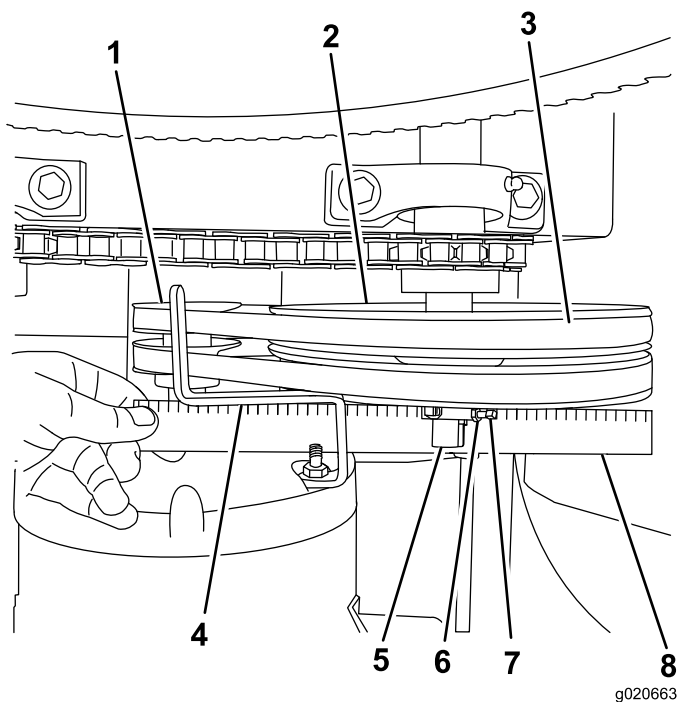

Figure 36
- D. Align a straightedge across the motor pulley and the idler pulley (Figure 36).
- E. If needed, pivot the motor on the motor deck until the motor pulley and the idler pulley are aligned to the straightedge (Figure 36).